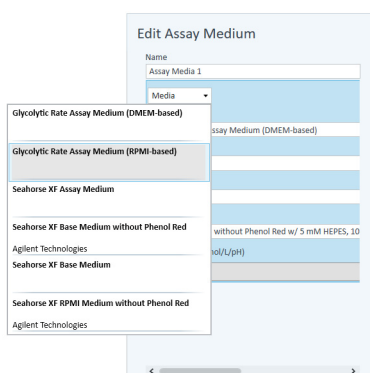

Figure 61 Assay medium media menu
- 4 To select the assay medium, use the **Media** catalog drop-down menu. (See Figure 61.)